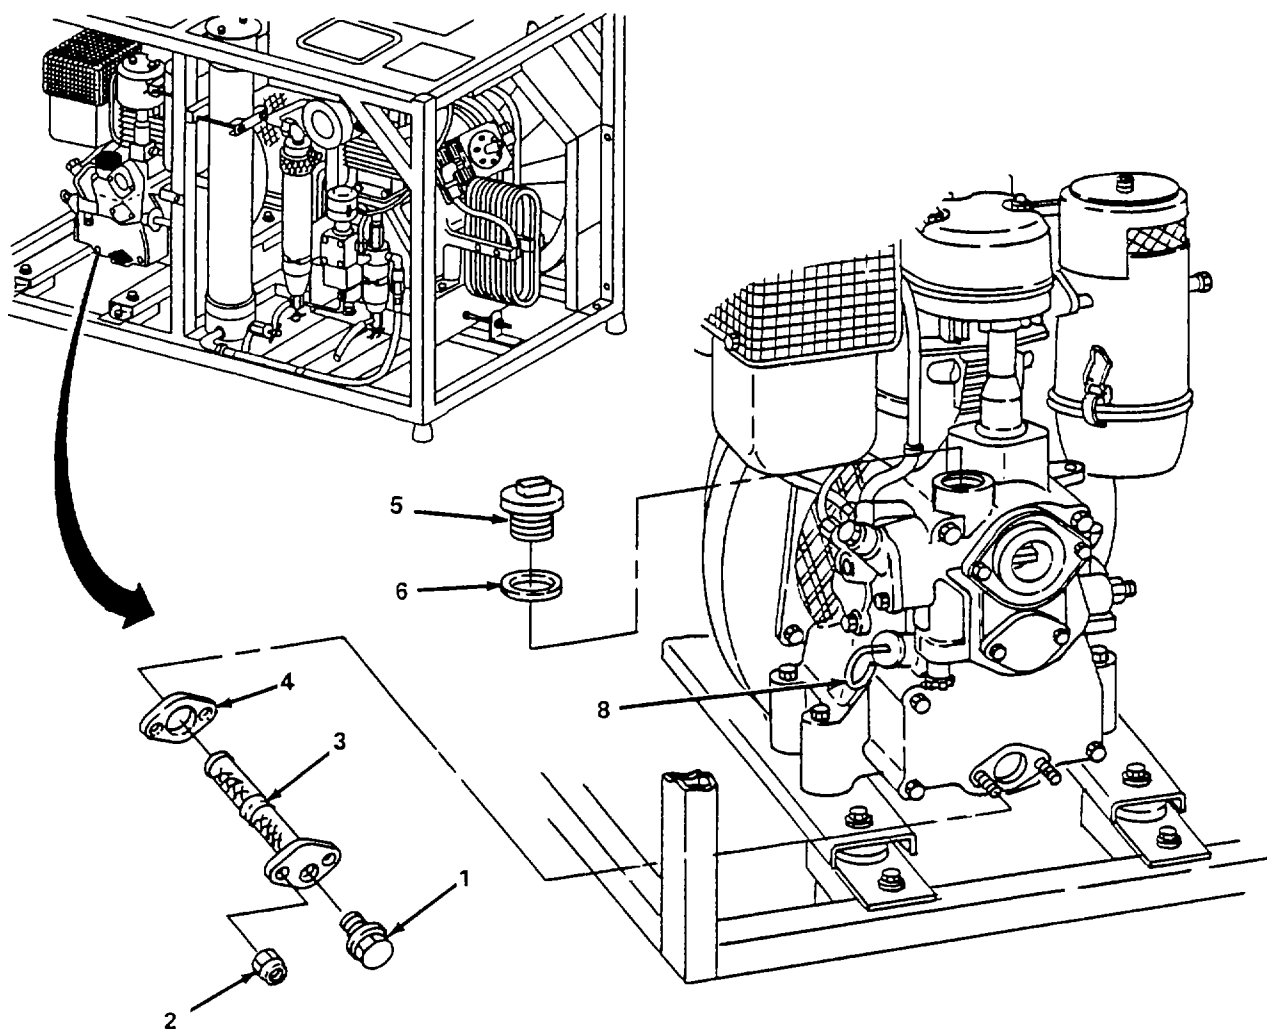

Figure 4-31. Oil Filter Screen, Service.
a. Service. (figure 4-31)
- (1) Remove drain plug (1) and drain oil into suitable container.
- (2) Remove two nuts (2), oil screen (3), and gasket (4). Discard gasket (4).